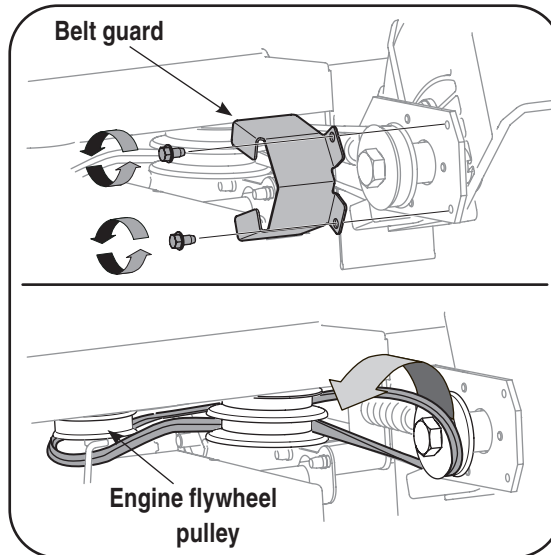

Figure 6-4
3. Remove the spindle sheaves belt guard by removing the two self-tapping screws which secure it to the blade plate assembly. See Fig. 6-4.
4. Carefully remove the belt from off of the pulleys, again making sure to note the orientation of the belt. Discard the belt. See Fig. 6-4.